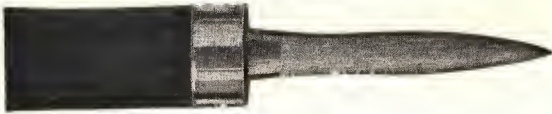

FIG. 6
**Oval Varnish Brush, Figure 6:** A Chinese bristle oval varnish brush of the open center type; a splendid brush preferred by many to the more modern flat varnish brush. It